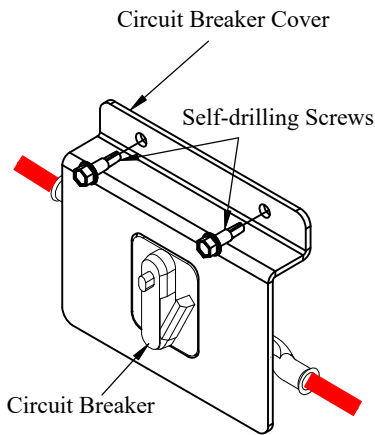

Figure 14: Circuit breaker cover.
14. **Attach** the circuit breaker cover using the supplied self-drilling screws (Figure 14).